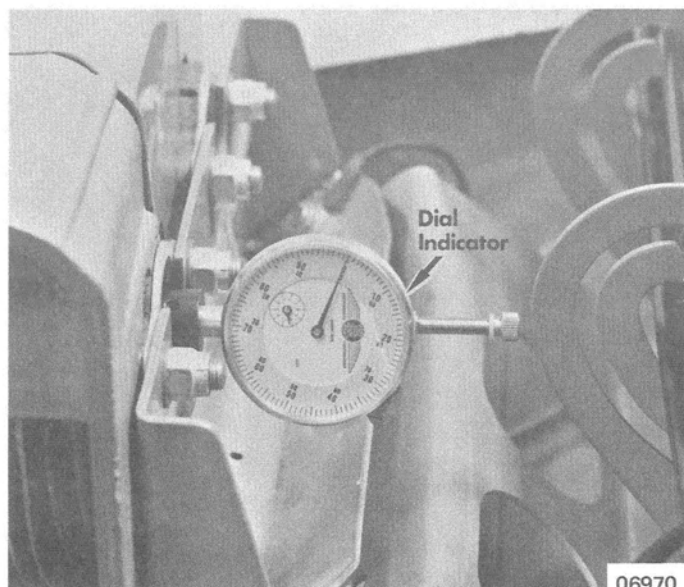

Figure 2. Dial Indicator Installed
2. Install Dial Indicator (C-91-58222) in No. 1 cylinder and establish T.D.C. (Figure 2)